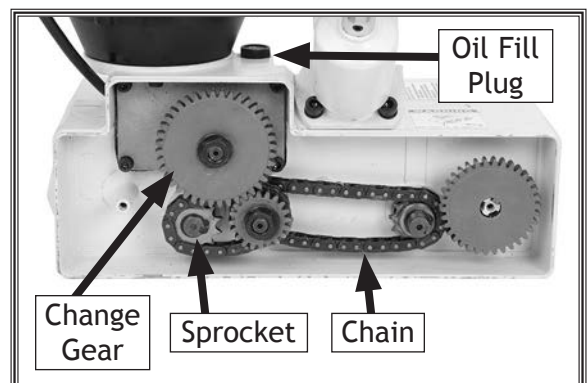

Figure 14. Sprockets, chain, and change gears
- After the first month or 200 hours of use, change the gearbox oil with 4.5 fluid ounces of an automotive grade 80-90W gear oil. For the remaining life of the power feeder, change the oil every 6 months or 1000 hours of use. **Note:** To drain the unit, remove the fill plug labeled "OIL" (Figure 14) and invert the power feeder.
- To prevent rust and binding, paint the sprockets, chain, and change gears (Figure 14) with a light film of an automotive grade GL-2 grade grease.